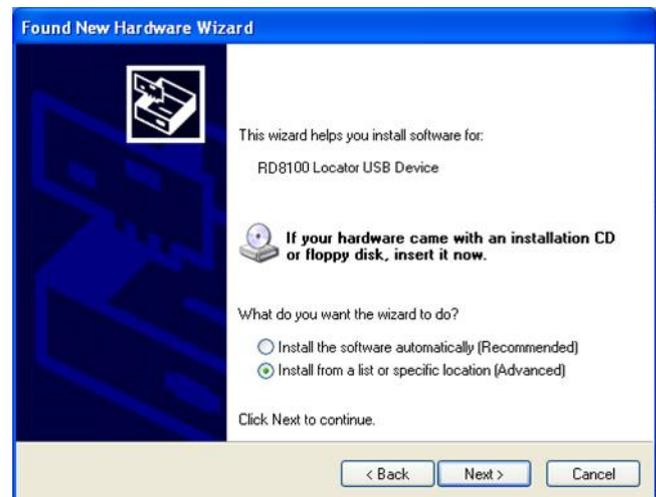

Figure 1.7 Found New Hardware Wizard
- Select the “**Install from a list or specific location (Advanced)**” option, figure 1.7 and click **Next**.